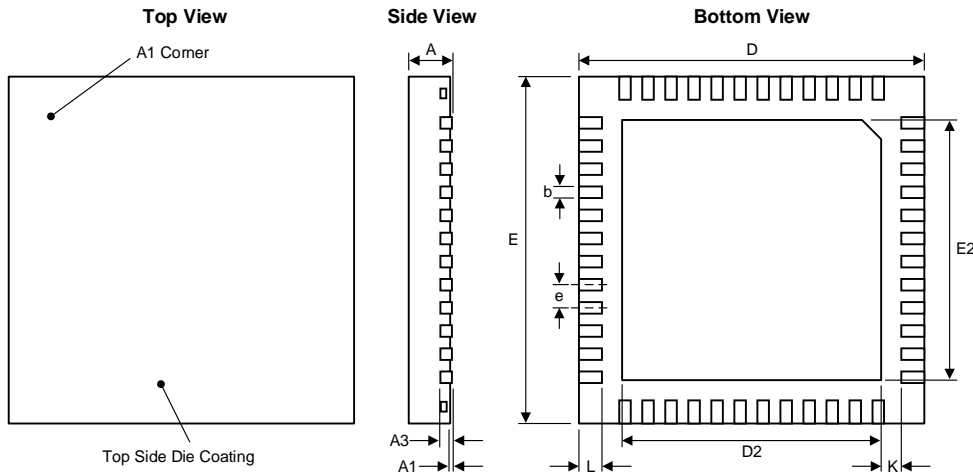

**Figure 7. I2C Read/Write Operation**
The I2C write operation includes the control byte and register address sequence, as shown in the bottom of Figure 7. This sequence is followed by eight bits of data from the master and an Acknowledge (ACK) from the KTX9602. The operation ends with a Stop (P) or Restart (SR) condition being generated by the master.
I2C Read operations include the control byte sequence, as shown in the bottom of Figure 7.
For sequential operations (Write or Read), instead of transmitting a Stop or Restart condition after the data transfer, the master clocks the next byte pointed to by the address pointer. The sequence ends with the master sending a Stop or Restart condition. KTX9602 Address Pointer will roll over to address zero after reaching the last register address. Refer to Figure 7.